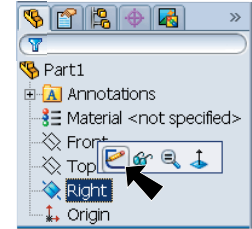

Fig. 2
Step 2. Click **Right** (plane) in the Feature Manager and click **Sketch**  from the Content toolbar, **Fig. 2**.